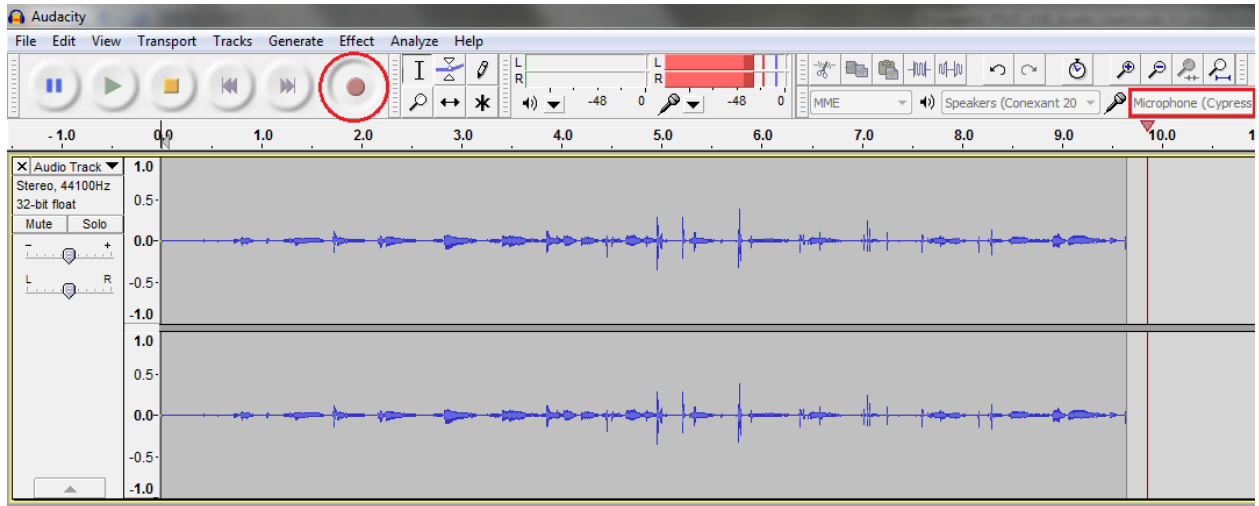

Figure 15: Audio Recording in Audacity
- Open Audacity. Ensure whether the recording device is chosen as Cypress Digital Audio DVK. See **Figure 15**